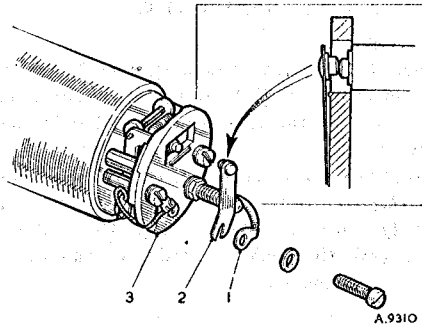

Fig. 10. Setting the correct relative position of blade and rocker contact points
21. Fit the contact blade (2) (Fig. 10) and coil lead (1) to the pedestal (3) with the 5 B.A. washer and screw. When a condenser is fitted the tag on it is placed under the coil lead tag.
22. Adjust the contact blade so that the contact points on it are a little above the contact points on the rocker when the points are closed (see Fig. 10), also that when the contact points make or break, one pair of points wipes over the centre line of the other in a symmetrical manner.